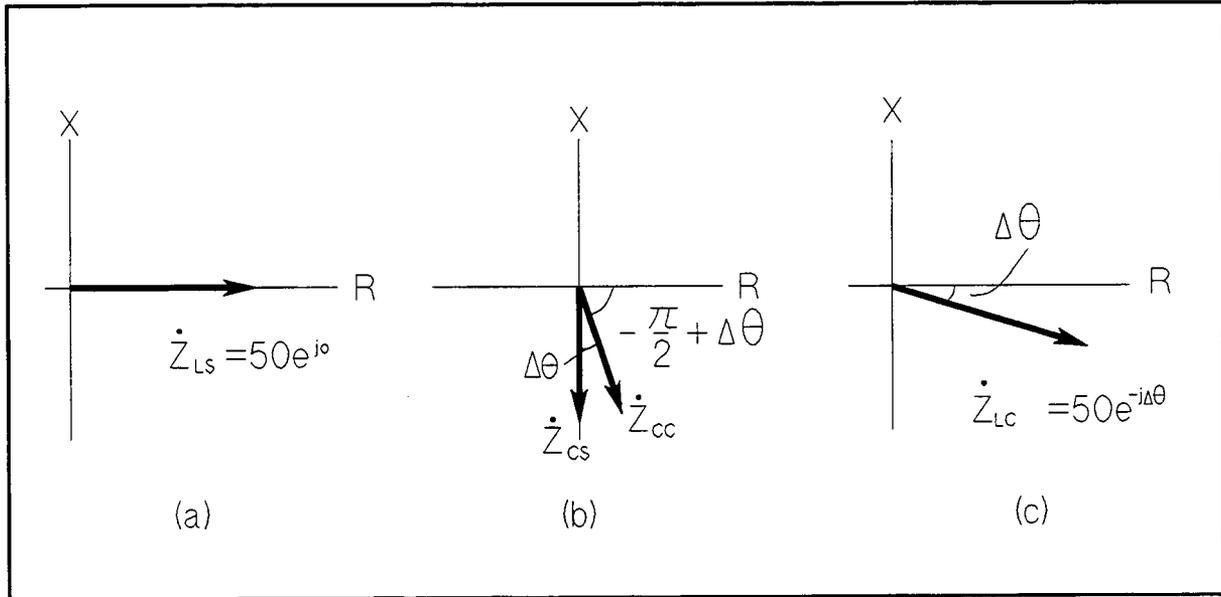

Figure 11-12. Modifying the Standard Value of a 50 Ω LOAD using a Low-Loss Air-Capacitor
2. Assuming the impedance of the 50Ω LOAD is $\hat{Z}_{ls} = 50 e^{j0}$ (that is, the phase of 50Ω LOAD is zero) as shown in Figure 11-12-(a) , calculate the calibration coefficient \hat{A} , \hat{B} , and \hat{C} .
4. Calculate the phase difference ($\Delta\theta$) between the phase of \hat{Z}_{cc} and the true phase of the Low-Loss air-capacitor (see Figure 11-12-(b)).
5. Modify the impedance of the 50Ω LOAD to \hat{Z}_{lc} whose phase is $-\Delta\theta$ and whose impedance magnitude is still 50Ω (see Figure 11-12-(c)). The modified impedance value of 50Ω LOAD \hat{Z}_{lc} is expressed in the following equation: